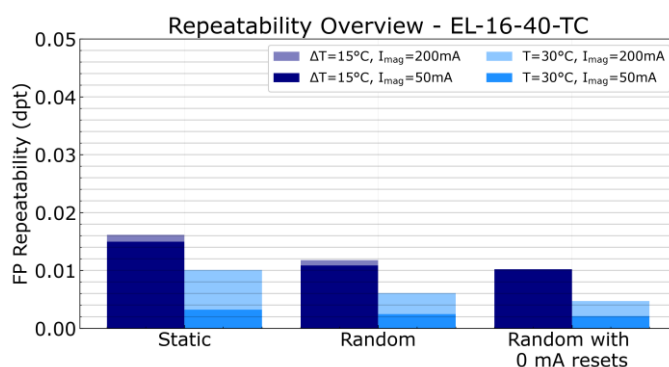

Figure 16: Summary of the repeatability test results (SD for the different combinations of driving scheme, current range, and lens temperature).
Figure 16 summarizes the results of the repeatability tests in the form of a bar chart, showing the standard deviation (SD) of the focal power deviation for all combinations of driving scheme, current range and lens temperature.
- For all testing conditions, the repeatability (SD) is well below 0.020 dpt (20 mdpt).
- For all driving schemes and both current ranges, the repeatability (SD) is below 0.010 dpt (10 mdpt), when the test is performed at a stable temperature of 30 °C.
- For all driving schemes, when a range of ± 50 mA is used (this corresponds to ≈ 1.5 dpt) at a stable temperature of 30 °C, the repeatability (SD) is lower than 0.005 dpt (5 mdpt).